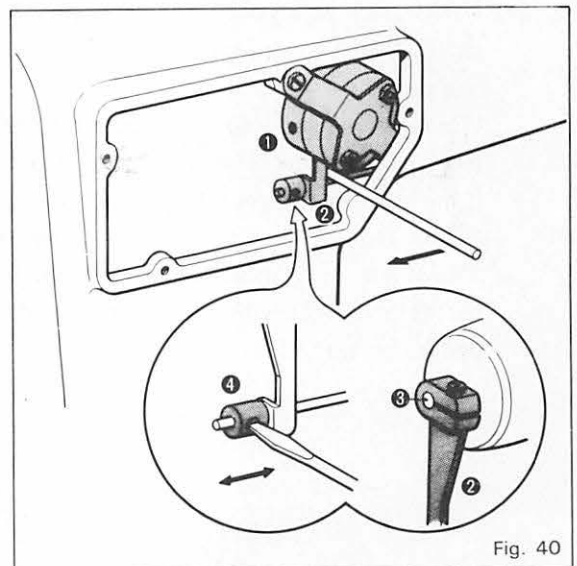

Fig. 40
(2) Adjusting tension releaser
Fix tension release solenoid ① on the arm, at that time, seeing from rear cover, fasten tension release lever ② so that it is positioned at the lowest when you turn it clockwise. When fixing tension release lever, side face of tension release lever should be in line with the end of solenoid shaft. ③. (Fig. 40)